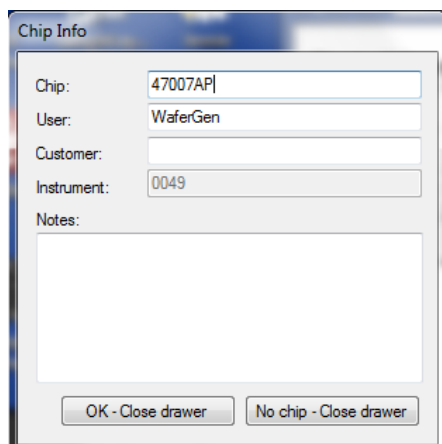

Figure 9. Chip Info dialog box.
4. The *Chip Info* (Figure 9) dialog box will open. Enter “Chip”, “User”, and other requested information. This information will be included in the analysis files and Summary report.